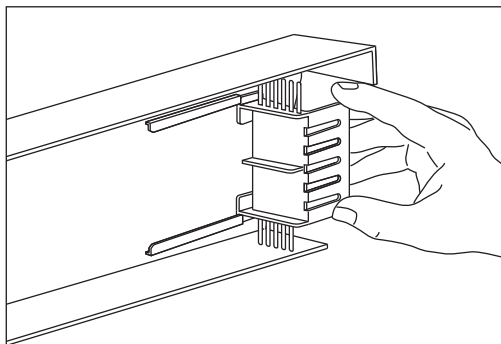

Fig 2 Locate starter insert in dry verge unit
- 5 Slide starter insert into internal fixing channels of dry verge unit, and position assembly over eaves roof tile into position at which it will be fixed (Fig 2).